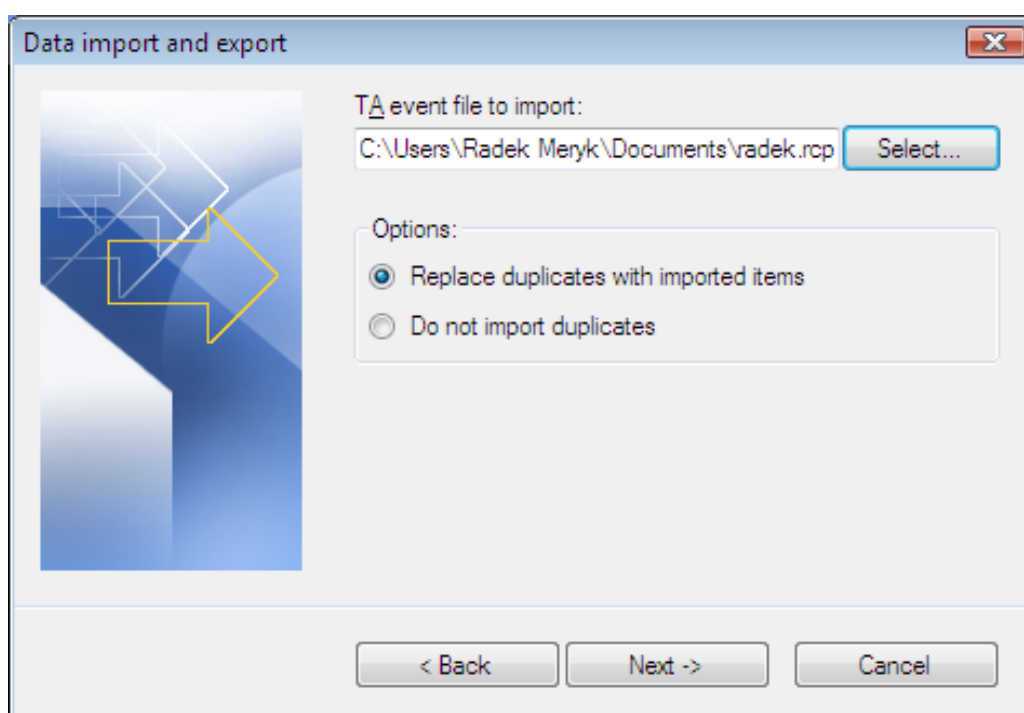

Figure 9. Data import and export wizard — step 3
- ◆ Step 3. Select location to your T&A event file (Figure 9). Using available options you can choose a method of resolving conflicts in case, the imported value is already in database. If you choose **Replace duplicates with imported items**, duplicate values existing in the database will be overwritten by the imported values. The **Do not import duplicates** option skips duplicated records. Two T&A events are assumed equal, if their date/time, reader ID and event type are identical.